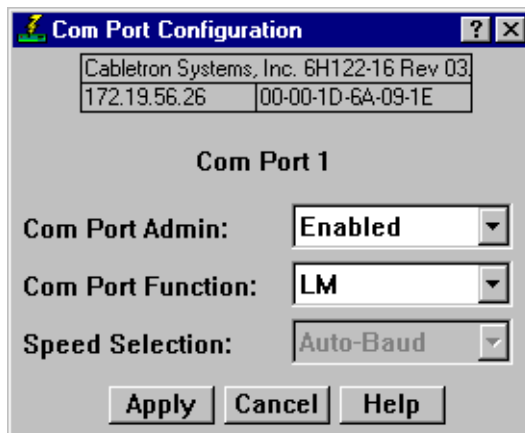

Figure 2-17. The COM Port Configuration Window
You can use the COM Port Configuration window (Figure 2-17) to specify the functions that will be performed by the RS232 COM port on the front panel of the monitored SmartSwitch 6000 or Matrix E7 module. To do so:
2. Click on **COM Port Configuration** and then select **Port 1**. The COM Port Configuration window, Figure 2-17, will appear.